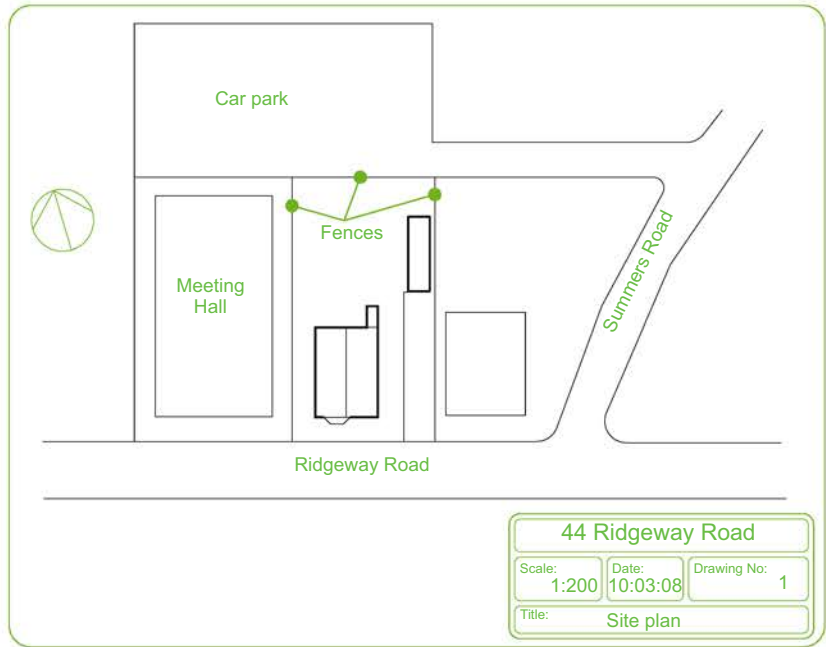

Fig. 17.1 A site plan
1. A site plan of the original two-storey house, drawn to a scale of 1:200 (Fig. 17.1).